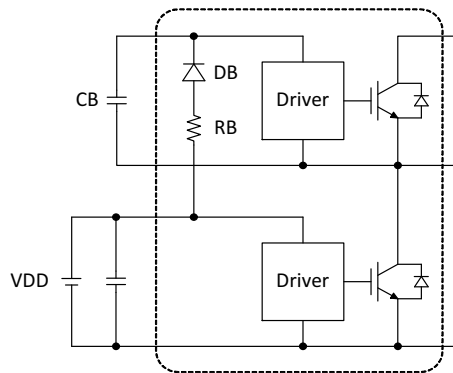

Figure 20. Bootstrap Circuit
VB(U) VB(V) VB(W)	<p>The VB(x) pins are internally connected to the positive supply of the high-side drivers. The supply needs to be floating and electrically isolated. The bootstrap circuit shown in Figure 20 forms this power supply individually for every phase. Due to integrated boot resistor and diode (RB & DB) only an external boot capacitor (CB) is required.</p> <p>CB is charged when the following conditions are met.</p> <p>Motor terminal voltage is low level for low side IGBT or low side diode conducting</p> <p>The capacitor is discharged while the high-side driver is activated.</p> <p>Thus CB needs to be selected taking the maximum on time of the high-side and the switching frequency into account.</p>